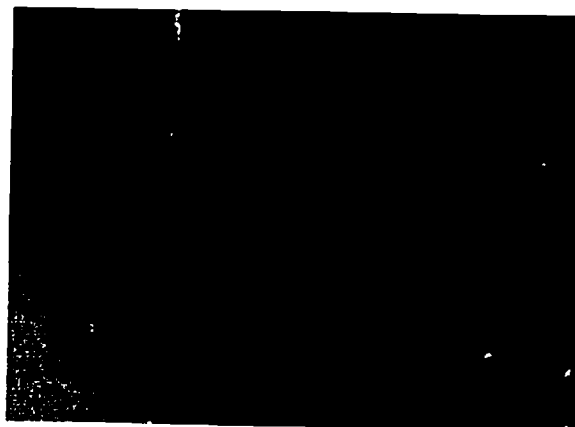

Fig. 4G-23. Assembling Scope
4. The pointer should swing freely when the altitude scope is completed. See Fig. 4G-24.